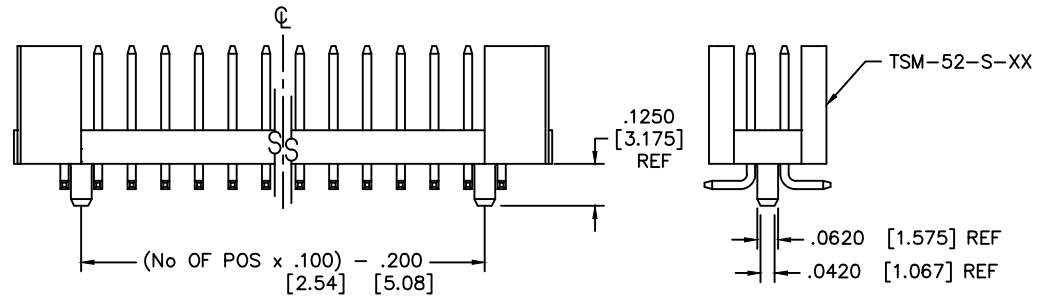

FIG. 2
- A: ALIGNMENT PIN (SEE FIG 2, SHEET 2) (DV ONLY)